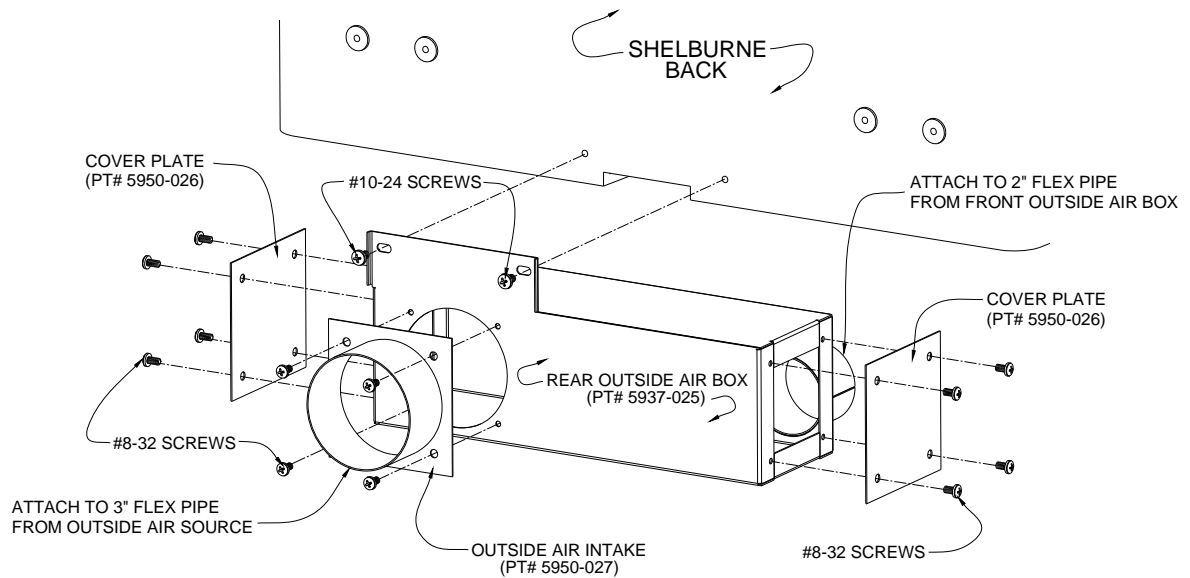

Figure 3
BEFORE YOU BEGIN: Work on a cool stove. You will need to access the bottom rear and the bottom left front of the unit. Identify the assembly pieces listed above. **Note:** The 3" flex pipe, hose clamps, and termination hood are not provided with this kit, but are necessary to connect the outside air box to the outside air source. **Important:** Before you install the outside air kit, determine where the duct for the rear outside air box will originate. The duct can be attached either to the back, the left or the right sides of the rear outside air box by changing the position of the intake and blank cover plates. (Refer to figure 3)
4. Attach the blank covers and outside air intake to the rear outside air box in the desired locations. (Refer to figure 3)
5. Slide the rear outside air box under the rear of the stove so that the 2" nozzle will meet the 2" flex pipe installed on the front outside air box and connect these two pieces. Now align the tab on the rear outside air box with the two screw holes in the rear lower center of the unit. Remove the factory-installed screws and place the tab flush to the back of the stove. Secure the box with the two 10-24 screws. Tighten screws so the box is held securely and be sure the 2" flex pipe is snugly connected to the front and rear outside air boxes. (Refer to figure 3)